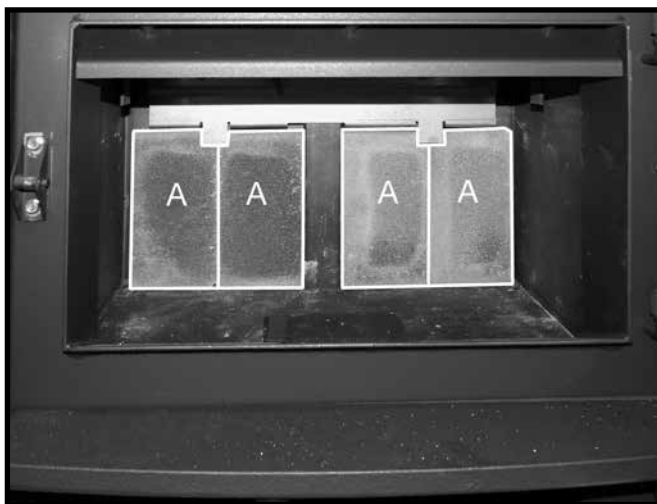

Figure 16. Remaining rear wall firebricks in place.
3. Repeat steps 1 & 2 for the placement of the other "A" firebricks on the rear wall Figure 16.